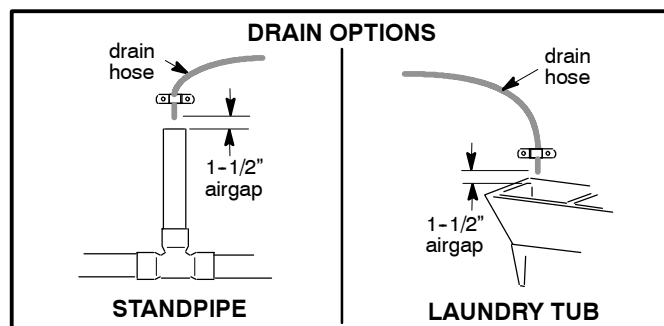

FIG. 2
- A drain is needed for recharge discharge water. A floor drain is preferred, close to the EcoWater Systems conditioner. A laundry tub, standpipe, etc., are other options (See Figure 2).